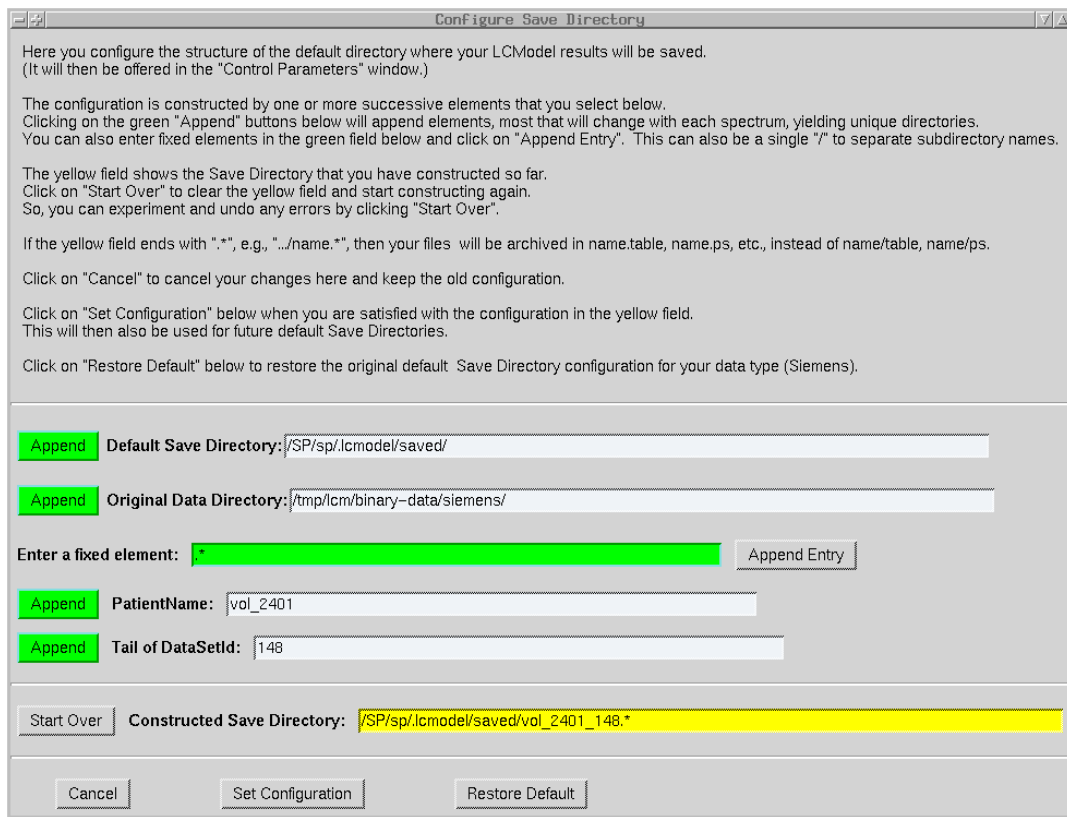

Figure 7.5: The window for permanently reconfiguring the structure of (Siemens) Archive Directories.
Normally, the .PS file is a file called **ps** in the Archive Directory. The following Siemens example using Fig. 7.5 shows how to archive them as extensions to filenames.
- (1) Click the green “Append” button next to “Default Save Directory”.
- (2) Click the green “Append” button next to “PatientName:”
- (3) Enter _ (underscore) in the green field next to “Enter a fixed element”, and then click the “Append Entry” button to the right.
- (4) Click the green “Append” button next to “Tail of Data SetId:”.
- (5) In the green field next to “Enter a fixed element”, delete the underscore and enter .* (period then asterisk), and then click the “Append Entry” button to the right. This is the stage shown in Fig. 7.5.
- (6) If you are satisfied with the structure shown in the field next to “Constructed Save Directory:”, then click the “Set Configuration” button.